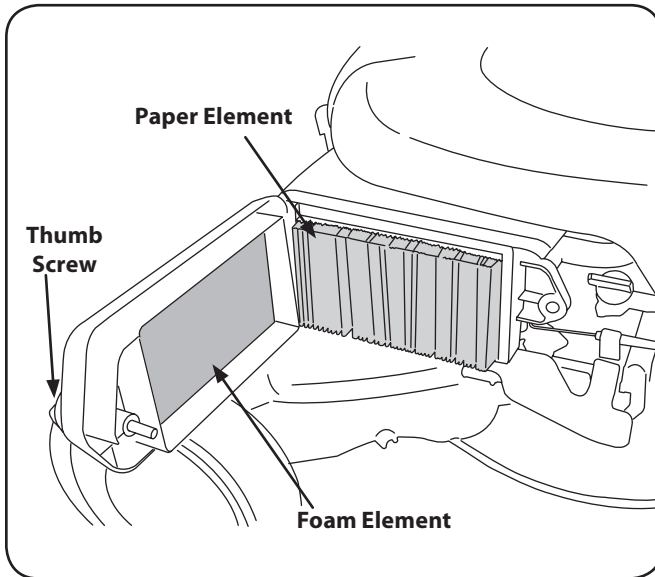

Figure 6-3
1. Remove the thumb screw and the air filter cover. Remove the foam and paper elements. See Figure 6-3. Replace paper element when dirty or damaged. Clean foam element or replace when damaged.